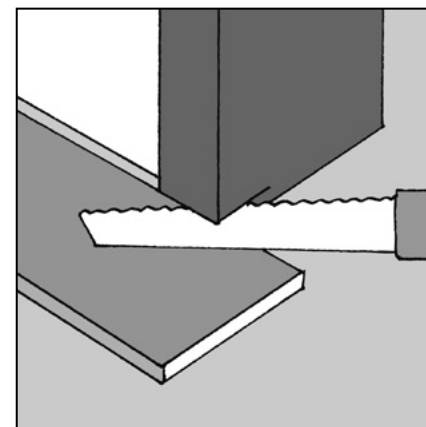

Figure 32 Door frames
- > When installing interlocking flooring around a door frame, or architrave cut into the door frame or architrave with a handsaw; using an off cut plank as a guide for the height and the amount to trim off the door frame (fig. 32 adjacent). Slide the cut piece under the door frame.